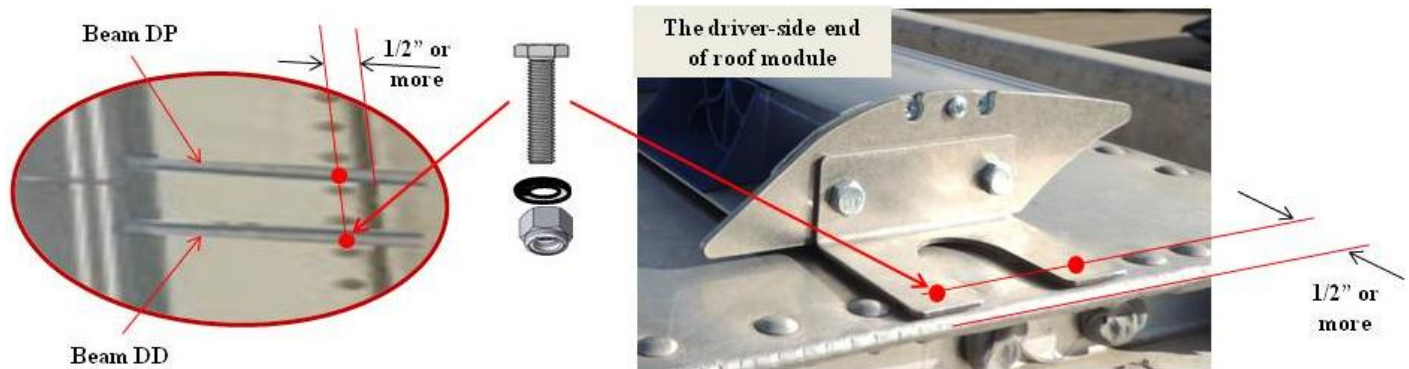

Figure 1.8: The red dots show locations for bolt centers in the beams (left) and brackets (right) of the roof module
1.3.2.1: Choose locations for the bolt centers in safety beams and safety brackets. Make sure that the centers are at a distance of 1/2" or more from the material edges of the trailer roof; Figure 1.8.